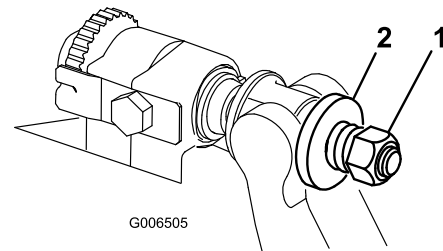

Figure 28
- Tighten spring tension nut until spring is collapsed, then back off 1/2 turn (Figure 28).